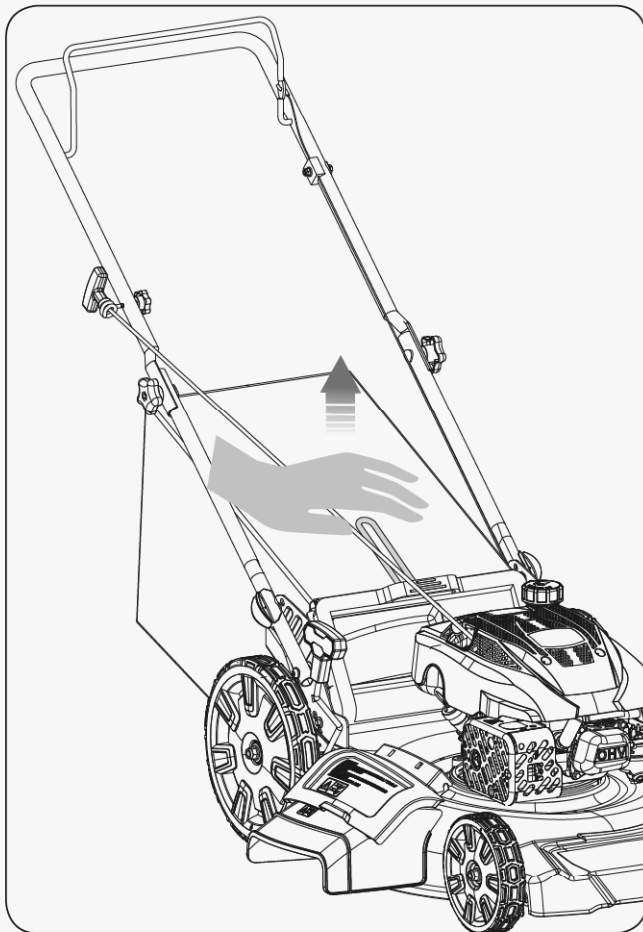

Figure 9
1. Lift the grass catcher with the frame handle. (See **Figure 9**)